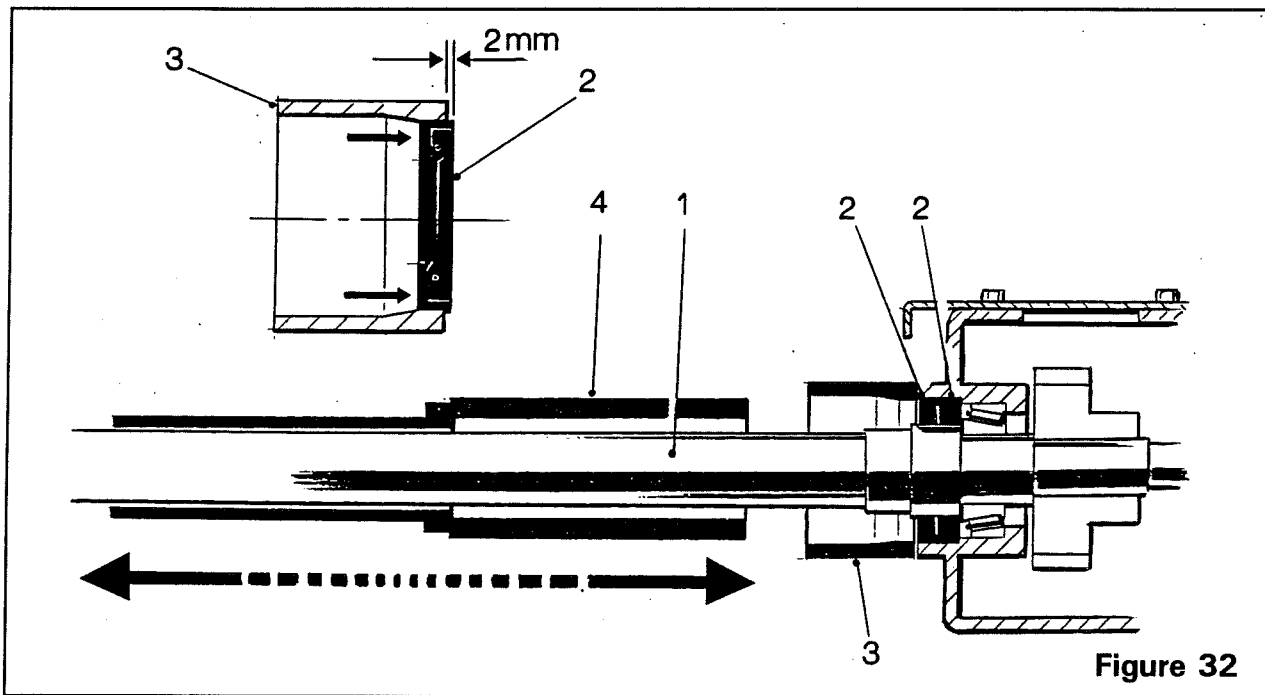

Figure 32
The separator unit roller shafts (item 1, figure 32) are each fitted with two oil seals (item 2, figure 32) at the gearbox end (one behind the other). The seals prevent oil from escaping the gearbox housing and also prevent dirt from entering.
Depending on conditions, the oil seals (item 2, figure 32) may eventually become worn or damaged and begin to leak. At this point the oil seals will need to be replaced.
1, The rollers are retained on the steel roller shafts (item 1, figure 32) by a single bolt and washer at the discharge end. Remove the bolt and washer and slide the roller off the discharge end of the shaft. The rollers are a close fit on the shaft and may need to be prised off in some cases.
2, Prise out the damaged oil seals, 2 off (item 2, figure 32), from the gear housing taking care not to scratch the seal apertures. Remove any dirt deposits.
2, Push one of the seals into the compression ring (item 3, figure 32) so that the seal protrudes 1-2mm beyond the ring face (see figure 32).
4, Press the seal firmly home by sliding the hammer (item 4, figure 32) along the roller shaft.